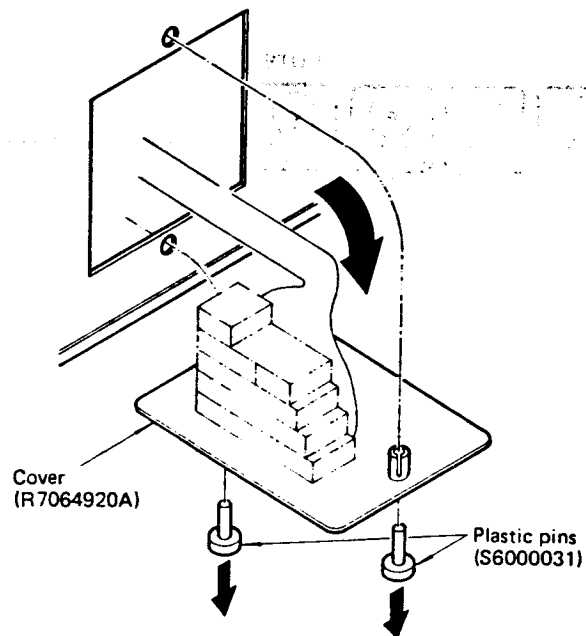

Figure 2
- (1) Remove the small cover from the rear panel of the receiver, as shown in Fig. 2.